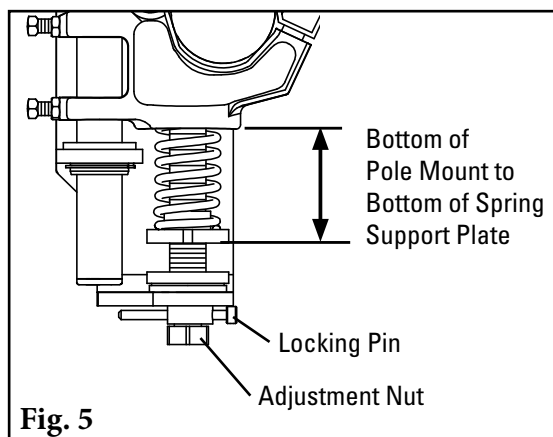

Fig. 5
5. **Set adjusting rod sleeve.** After setting the blade tension, screw the adjusting rod sleeve into the UHMW bushing until 1-1/2" (38mm) is showing (Fig. 5). Tighten the adjusting rod sleeve jam nut.
5. **Replace the sleeve.** Position the sleeve over the adjusting rod and turn it until it is in the middle of the bushing. Replace the bottom tension nut and tighten until it locks the sleeve in place (Fig. 5).
5. **Set the blade tension.** Turn the adjustment nuts until the correct spring compression is reached (Fig. 5). Spring compression is determined by the spring length. See the chart below for the correct spring length for your belt width. Replace locking pins.
5. **Reassemble the SAT2 Tensioner.** Remove three screws from air bag support plate (Fig. 4a). Turn the threaded insert into the support plate. Also turn part of the threaded insert into the hole on pole mount. (Fig. 4b). Ensure 1/4" (6mm) of threaded insert is still exposed, then turn the air bag onto the threaded insert and tighten (Fig. 5).